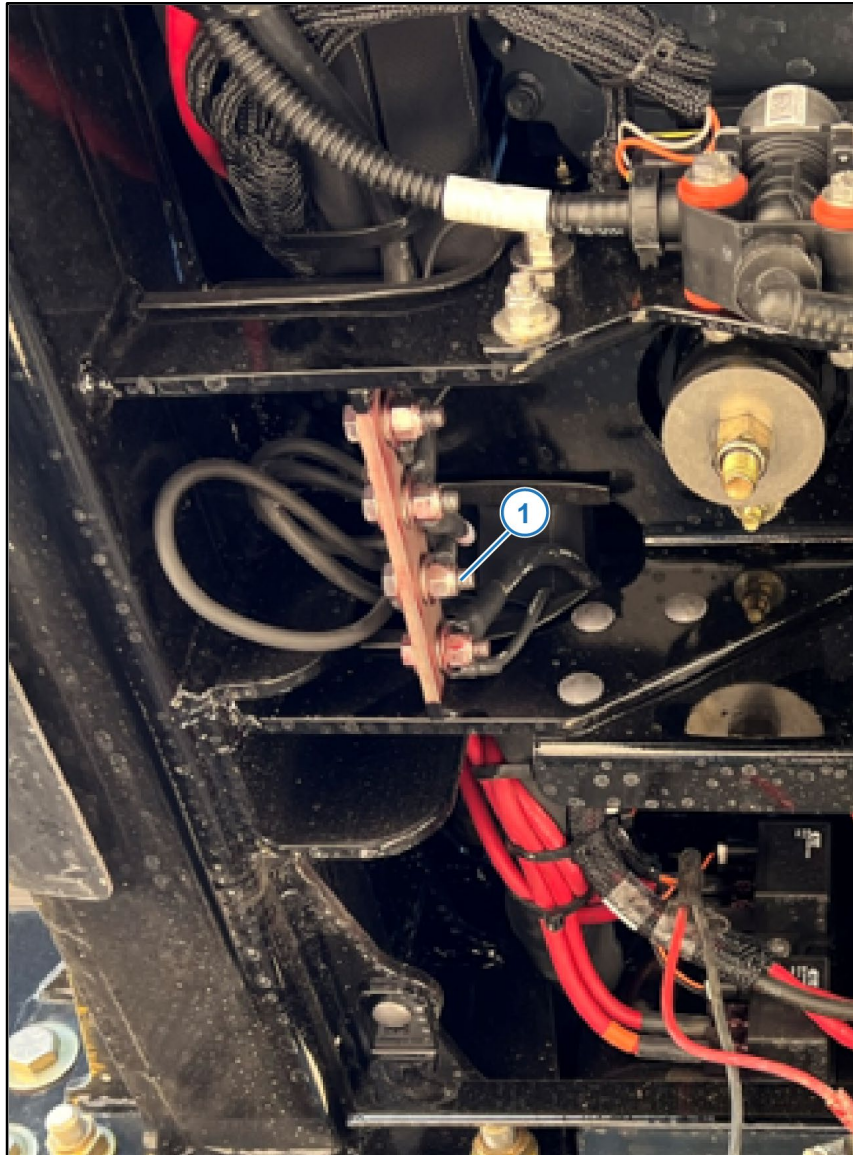

Figure 8 — Negative Power Cable
12. *Figure 8:* Route negative power harness cable to machine ground lug, cut to length, strip, and cap with a ring terminal correctly sized for ground lug (1).
13. Secure to the third ground lug from top (1) with machine hardware.